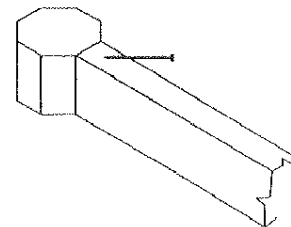

FIGURE B4
4. Put the 4" floor core at the centre. Toe-nail the floor joist into the core block [see **Figure B4**]. We recommend pre-drilling the 2x4 floor joists where they butt up against the core block to avoid splitting.